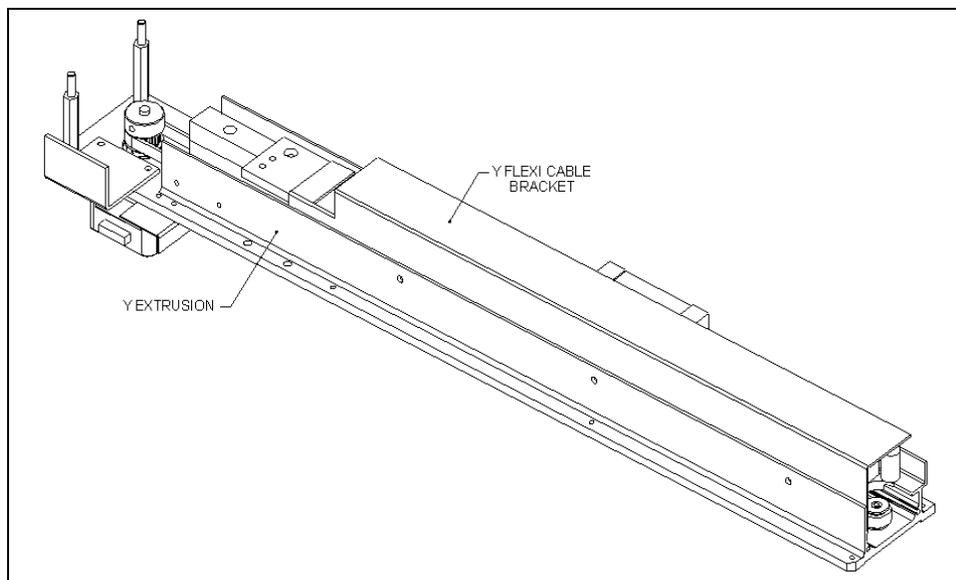

Figure 7-41 Flexicable Run Bracket
- 2 Remove the Y-flexicable Run bracket (Part No. 204003800) from the Y-Drive Axis (Figure 7-41) by removing the 3 M3 x 6 caphead screws (when this is replaced, secure the screws with Loctite 222).